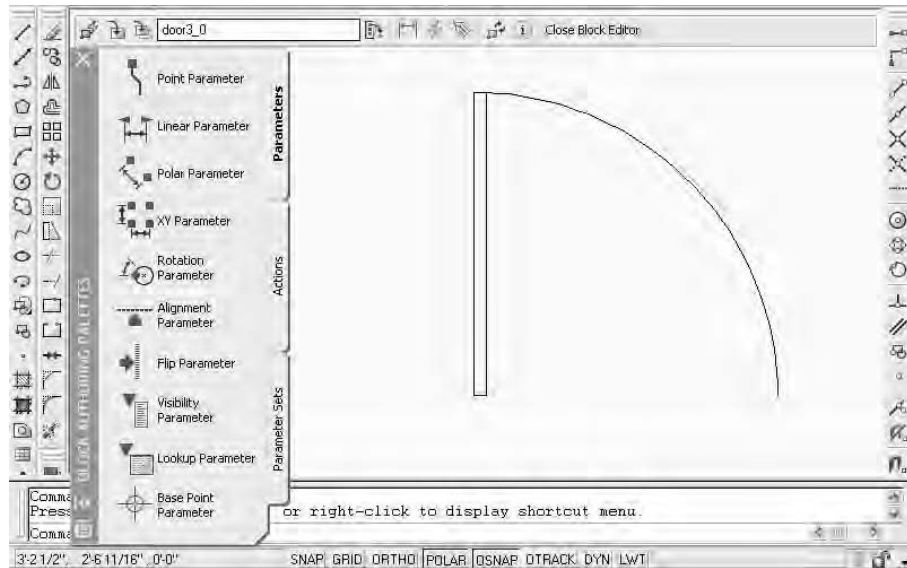

FIGURE C.13: The door block in the Block Editor
4. Click the door block, and then right-click and choose Block Editor from the shortcut menu. Pan the view and adjust the Block Authoring palettes so that your screen looks similar to Figure C.13.